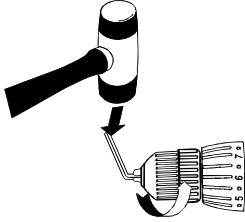

Fig. 13
7. Insert hex key into chuck and tighten jaws of chuck securely (Fig. 13). Tap the hex key sharply with a mallet in a COUNTER-CLOCKWISE direction. This will loosen the chuck on the spindle. The chuck can now be unscrewed and removed from the spindle by hand.